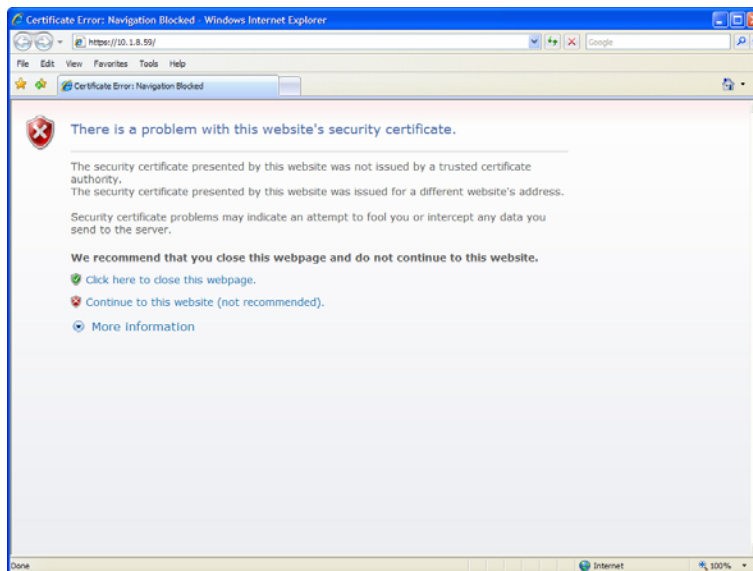

Figure 4-47: Launching Microsoft Internet Explorer
- 2) Highlight a sensor of interest from the list of sensors on the screen, and click the **Web...** button. An Internet browser is launched. See Figure 4-47.
Not only can you plan your network deployment ahead of time, but also back up the configuration of your network by exporting data of your Sensors in a text file in the same format as illustrated in Figure 4-47. This also can be done from the Manage Sensors screen.